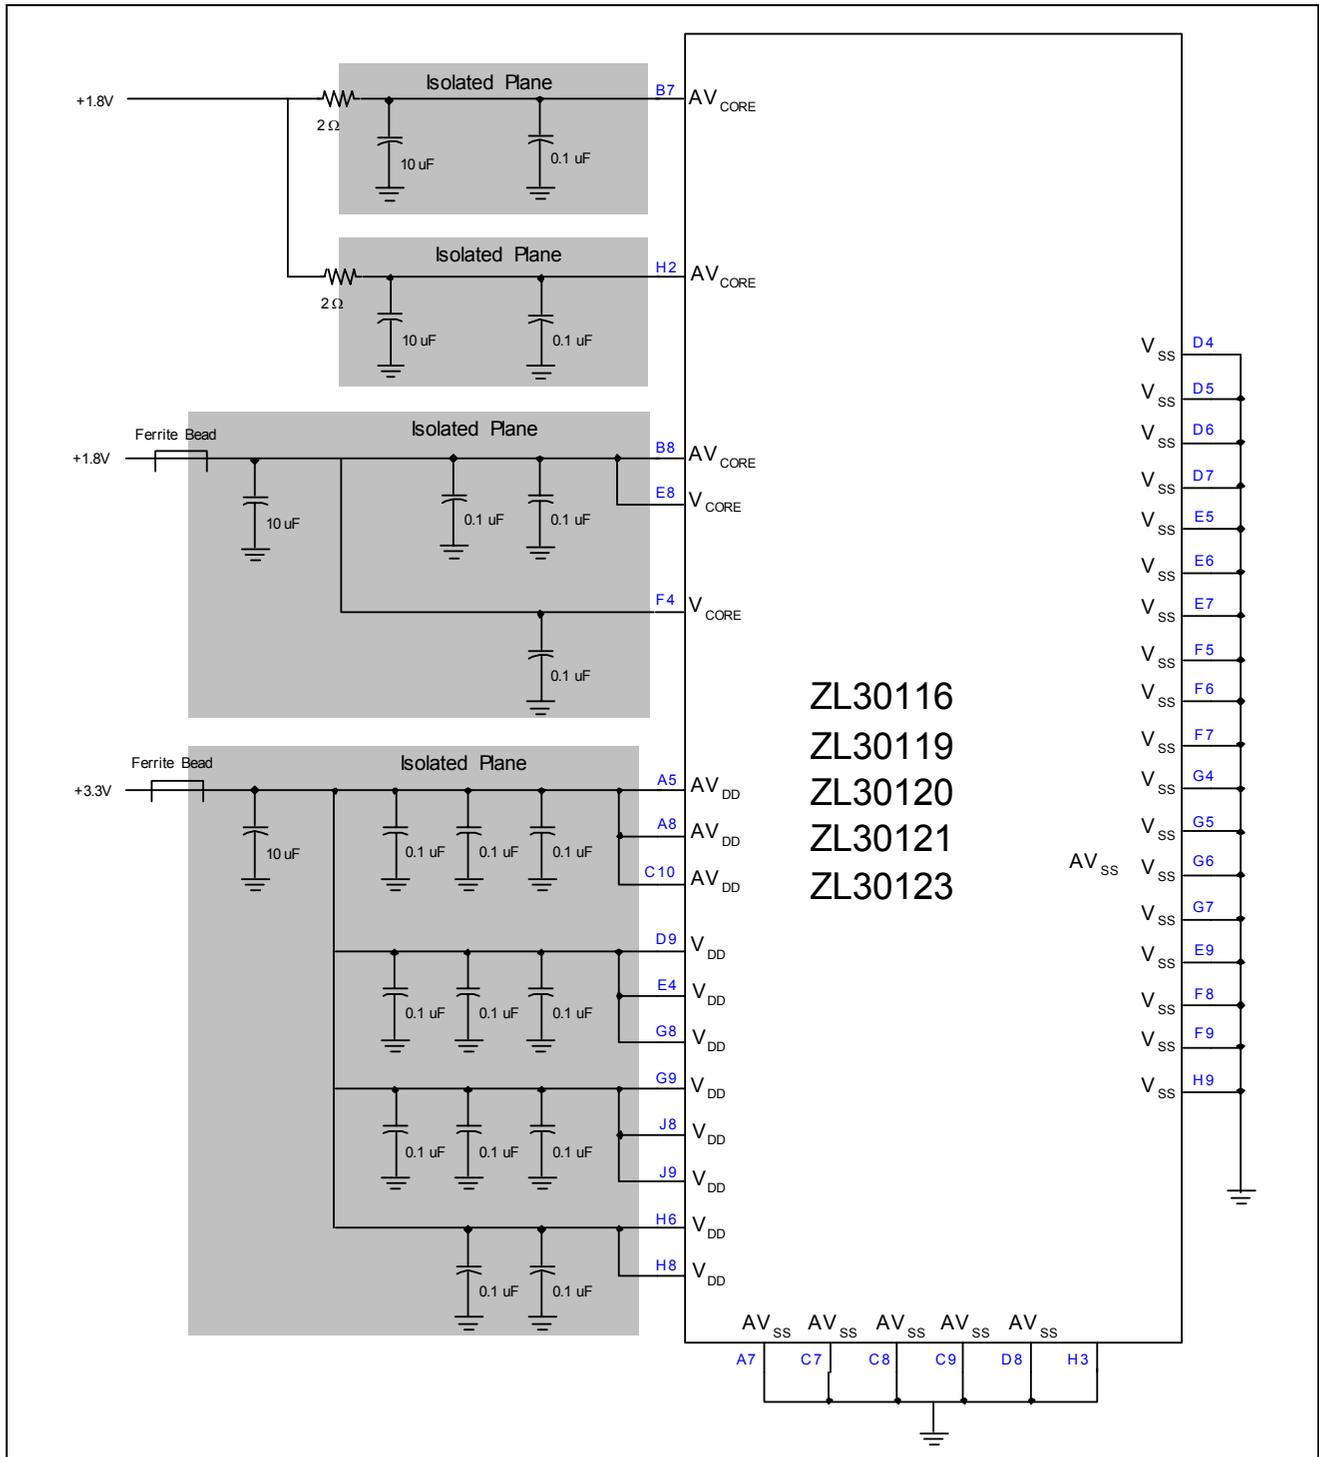
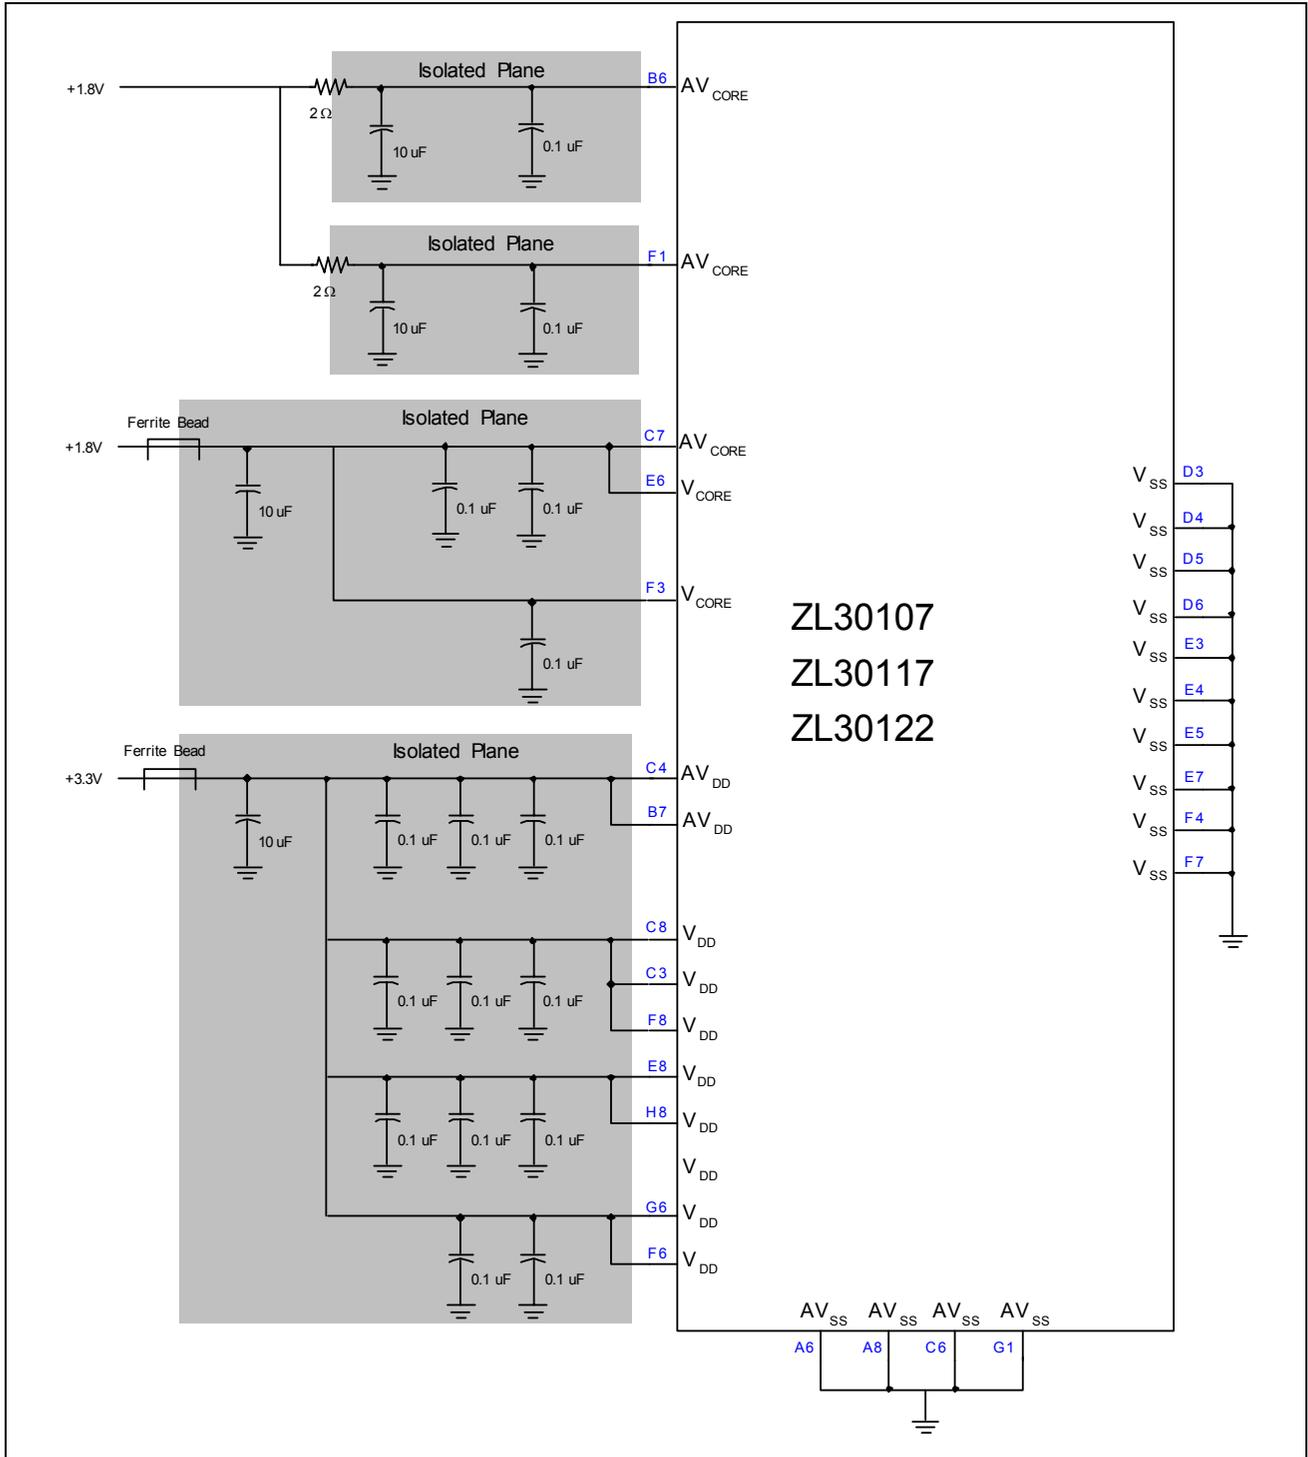

Figure 1 - Power Supply Decoupling for ZL30116, ZL30119, ZL30120, ZL30121 and ZL30123
Figure 2 - Power Supply Decoupling for ZL30107, ZL30117 and ZL30122
Jitter levels on the ZL30107, ZL30116, ZL30119, ZL30120, ZL30121, ZL30123, ZL30117 and ZL30122 output clocks may increase if the device is exposed to excessive noise on its power pins. For optimal jitter performance, the device should be isolated from noise on power planes connected to its 3.3 V and 1.8 V supply pins as shown in Figure 1 for ZL30116, ZL30119, ZL30120, ZL30121, ZL30123 and in Figure 2 for ZL30107, ZL30117 and ZL30122.
- AV_{CORE} pins B7 and H2 in Figure 1 and pins B6 and F1 in Figure 2 draw 25 mA each. This requires the series resistor to dissipate at least 1.25 mW of power.